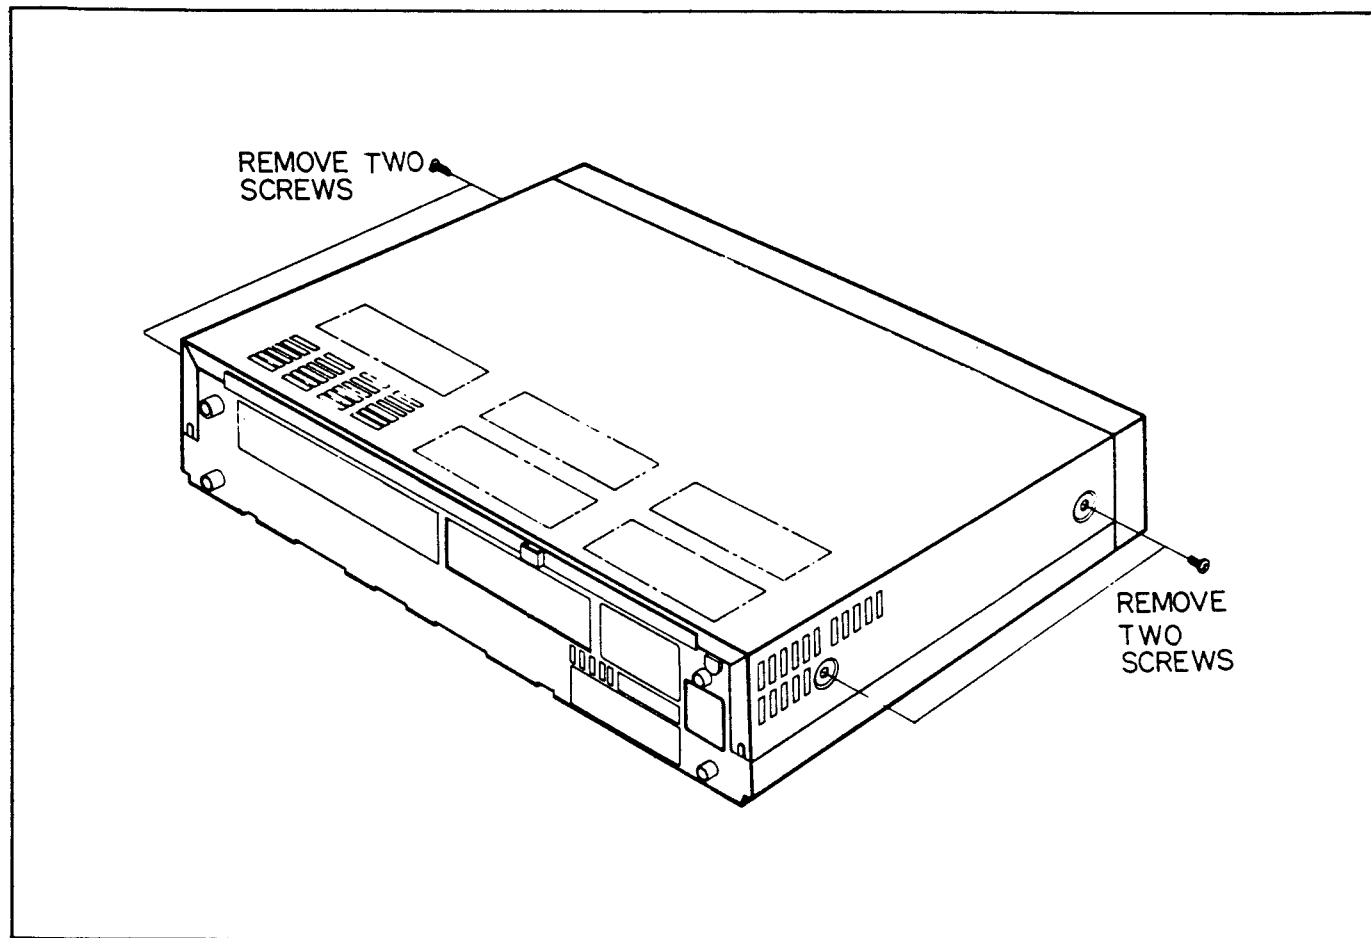

Fig. 1 Top Cabinet Removal
2-1-1. Top Cabinet Removal (Fig. 1)
1. Remove the top cabinet and the bottom cover. (See Figs. 1, 2)
2. Remove three (3) screws from the top of the front panel.
3. Release three (3) tabs from the bottom of the front panel.
(See Figs. 1 to 3)
1. Removal the top panel. (See Fig. 1)